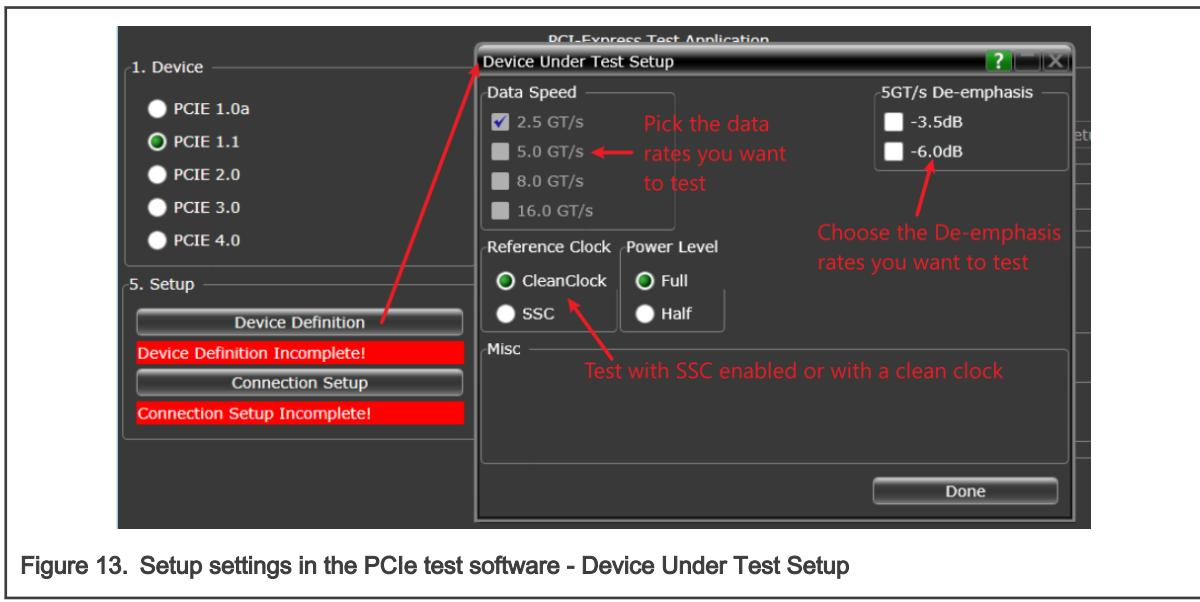

Figure 13. Setup settings in the PCIe test software - Device Under Test Setup
- b. In the **Test Point** menu, select **Base-RefClk Tests** or **CEM-RootComplex Tests**, as shown in Figure 13.